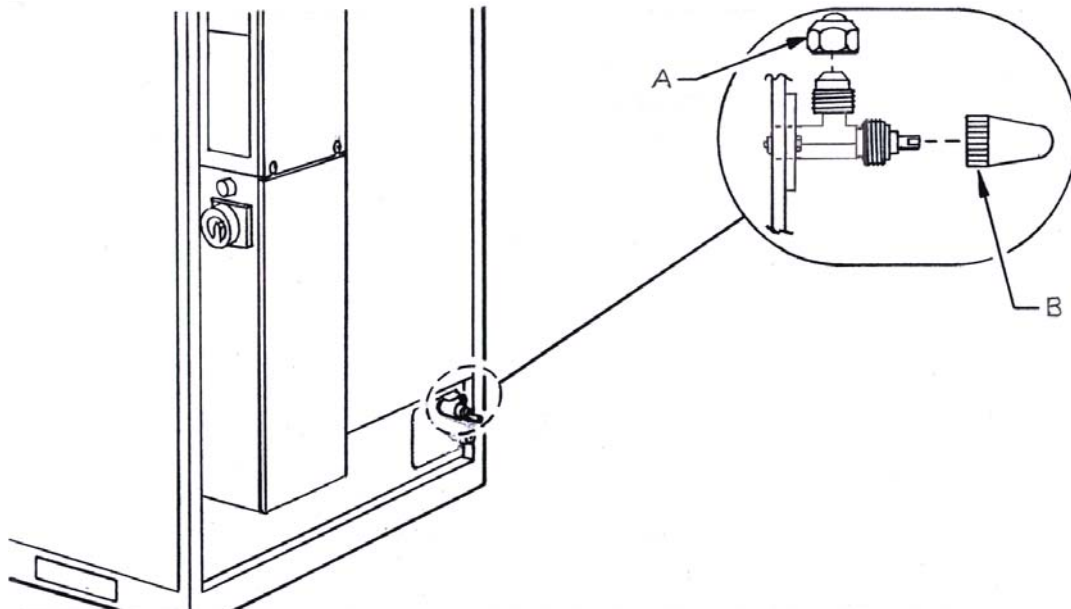

Figure 3-21: Evacuation Valve Closure
3. Reinstall the protective cap and the flare nut with bonnet onto the EVACUATION VALVE. (See Figure 3-21).